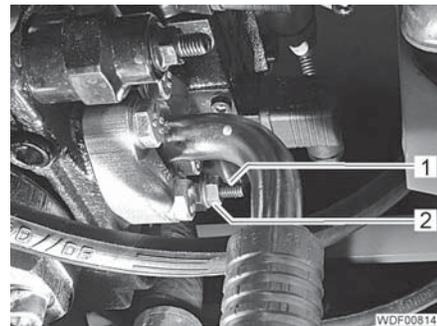

Fig. 13 Adjustment screw
- Undo the nut (Fig. 13,2).
- Adjust the pressure cut-off at the screw (Fig. 13,1):
- Tighten the nut (Fig. 13,2).